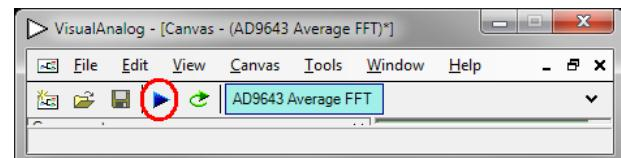

Figure 15. Run Button (Encircled in Red) in VisualAnalog Toolbar, Collapsed Display
7. Click the Run button in the VisualAnalog toolbar (see Figure 15).